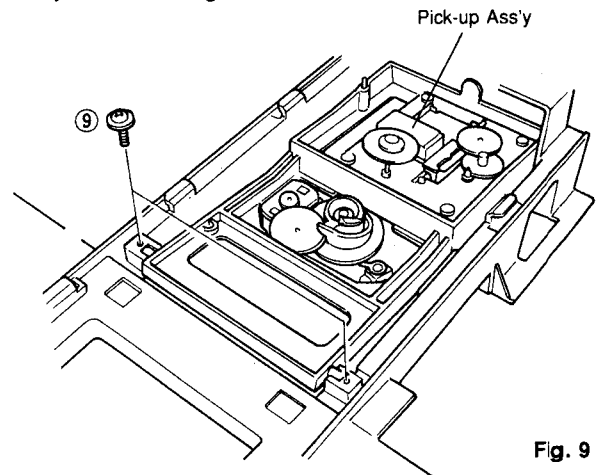

Fig. 9
- Remove 2 screws (⑨) and then remove the Pick-up Ass'y as shown Fig. 9.